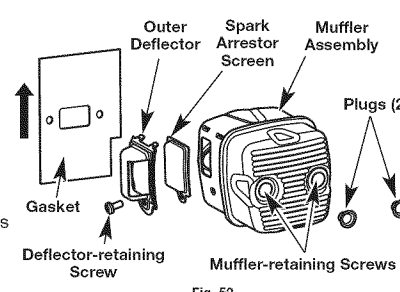

Fig. 52
2. Use a T27 Torx wrench to remove the two muffler-retaining screws (Fig. 52).
8. Insert the two muffler-retaining screws into the muffler assembly. Place the gasket behind the muffler assembly so that the two muffler-retaining screws pass through the two holes in the gasket. Make sure the narrow end of the gasket faces the bottom of the muffler assembly (Fig. 52). Insert the muffler assembly and gasket into the cavity at the front of the unit so that the screws align with the two screw holes in the front cavity. Tighten the muffler-retaining screws securely to a torque of 80-90 in.lbs. If necessary, hold the gasket from the side with a pair of needle-nose pliers while tightening the screws. If assistance is required for achieving the proper torque, have the unit serviced by an authorized service dealer.